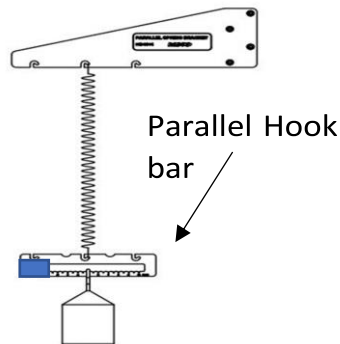

Figure 4 – Dynamic Single Spring Setup
- C) Hang the Parallel Hook Bar from the center slot on the bottom of the spring as shown in Figure 4, the taped side will be used to break the beam of the photogate in measurements.